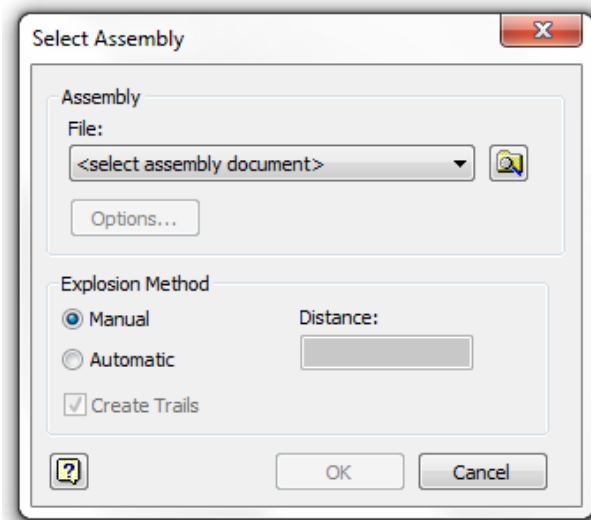

Figure Step 7
Step 7 Enter the CREATE VIEW command. It will open the Select Assembly dialogue box. (Figure Step 7)